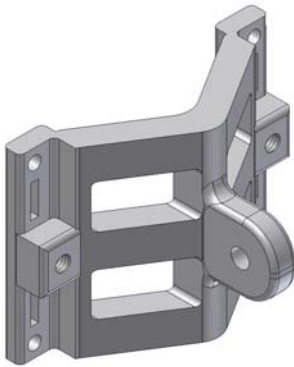

Figure B-1. Large Clamp
- One Large Clamp (see figure B-1)